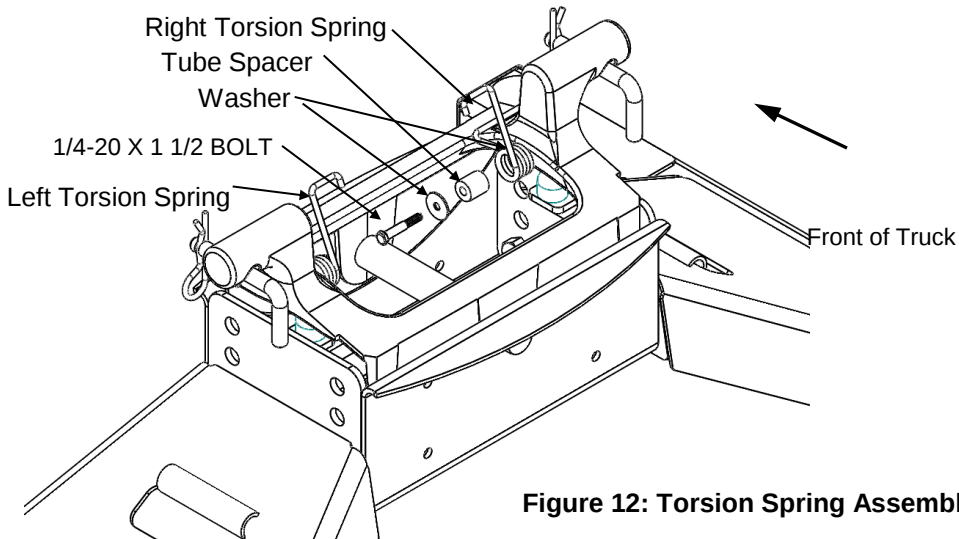

Figure 12: Torsion Spring Assembly
8. If not already installed, the Left hand and Right hand torsion springs will need to be added to the center section. The coil must face the rear of the truck and wide hook must sit over the casting as shown in Figure 12. Tighten 1/4-20 X 1 1/2 BOLT with 7/16 socket to 8 lb-ft.